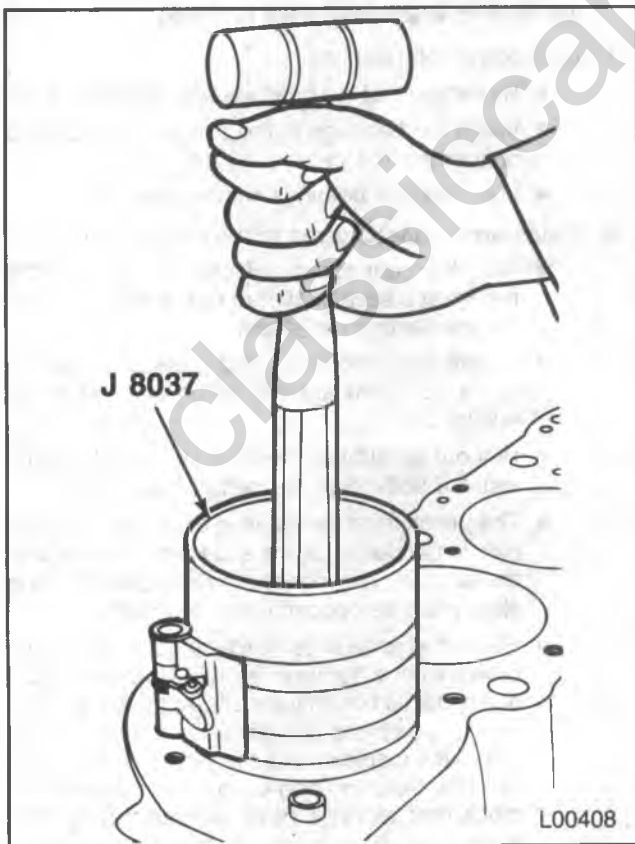

Figure 27 — Installing the Piston and Connecting Rod
- Without disturbing the ring end gap location, install J 8037 over the piston (figure 27).
- Place the piston in its matching bore. Using light blows with a hammer handle, tap the piston down into its bore (figure 27). At the same time, from beneath the vehicle guide the connecting rod to the crankpin with the pieces of hose (figure 25). Hold the ring compressor against the block until all rings have entered the cylinder bore.